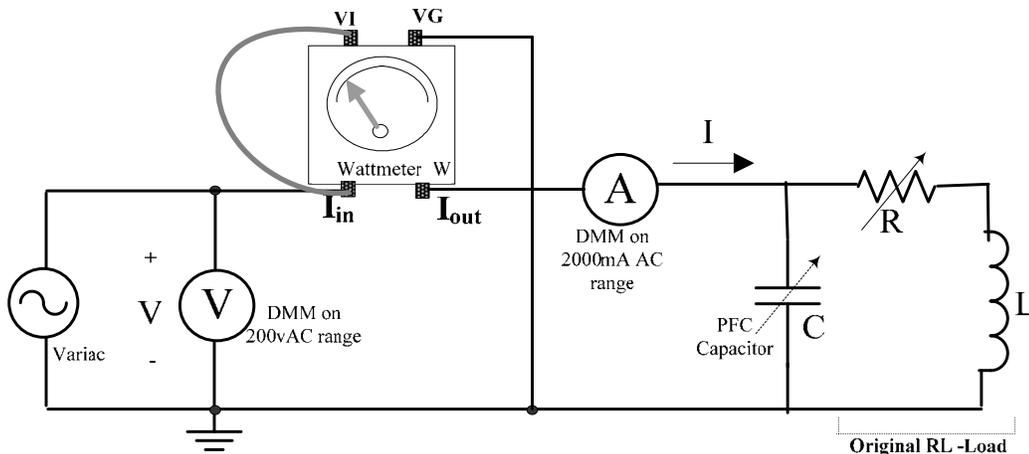

Figure 5.4
POWER FACTOR CORRECTION: Set up the PFC circuit of Figure 5.4 with the variac at its minimum, the R-dial set to **30** and with all switches on the C-box toggled down so that $C = 0$. This circuit corresponds to the setup of Figure 5.2, without any modifications.
- (c) **Simulate** the circuit of Figure 5.4 (without the wattmeter!) using $R= 30$ Ohms, $L = 0.2$ H and $C = C_{\min}$ found in Step 5 above. Use AC analysis to obtain the plot of current versus frequency (ie a frequency response plot) .If the parameters are set properly, the simulation should show that the current is a minimum at the line frequency of $f \approx 60$ Hz.